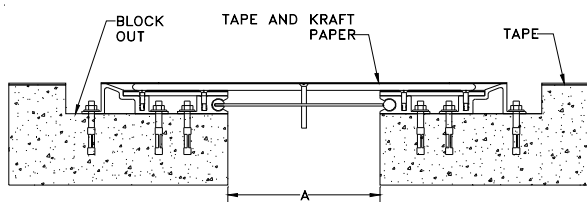

Figure 10
STEP 6. Apply tape to the deck surfaces adjacent to the block out and to the exposed surfaces of the joint system (Figure 10). Balco, Inc. also recommends that Kraft paper be used in conjunction with the tape to protect the concrete and joint cover surfaces from primer and elastomeric concrete splatter, spills, tracking, etc.